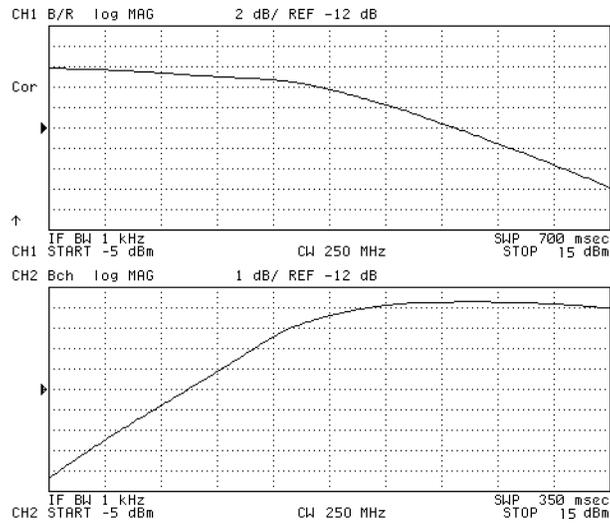

Figure 10-16.
5. Press **Display** **DUAL CHAN on OFF** to **ON off** to display both channel (see Figure 10-16). Note that you must subtract 6 dB from the input value readout. This is necessary because the input signal is attenuated by the power splitter that is between the RF OUT and the DUT.